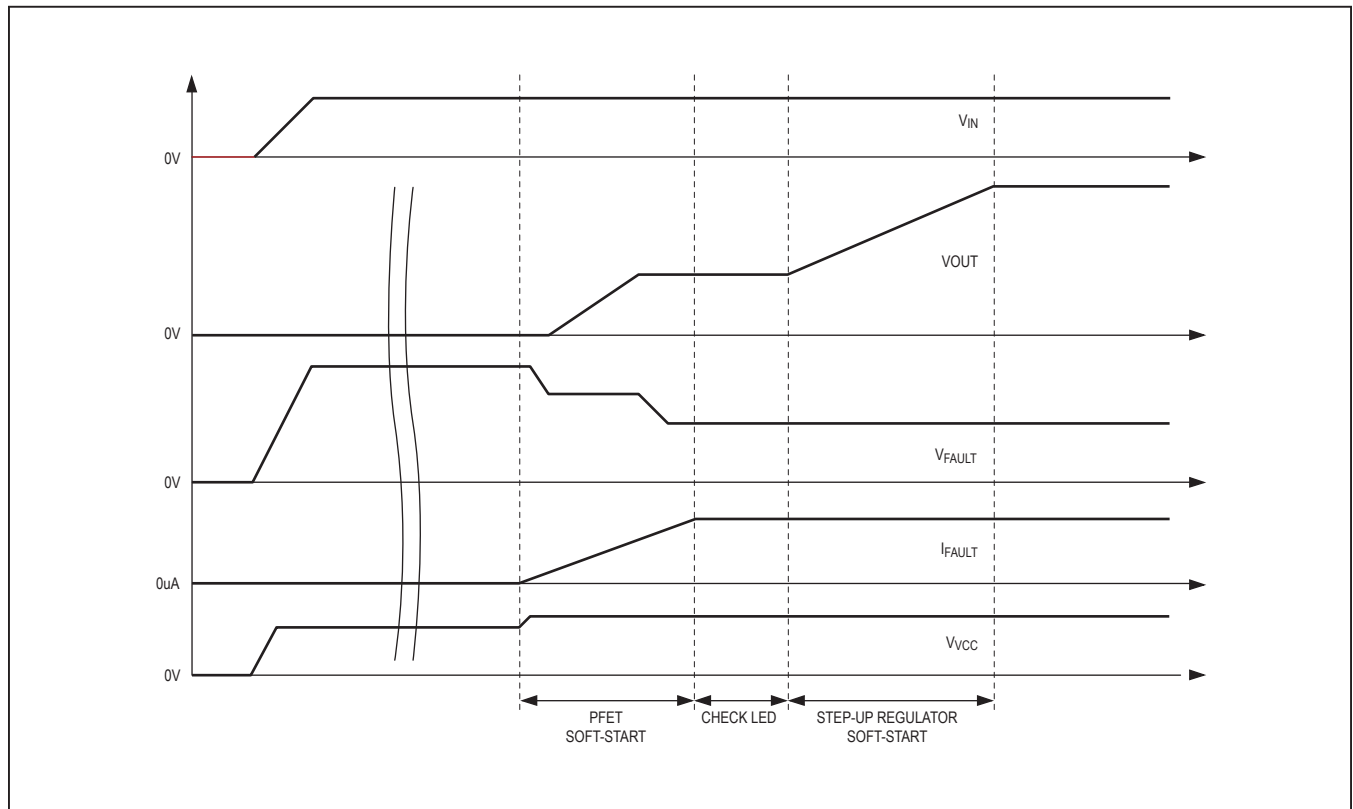

Figure 3. Startup Timing Sequence
0.8mA (typ, 0.4mA min) current source during 1ms (typ). If some FB_n voltage is lower than 1.2V (max), the string is considered to be unused. Therefore, when a string is not in use, it should be connected to SGND. All other strings with FB_n higher than 1.2V (max) are detected as in use. After the LED string diagnostic phases are finished, the step-up regulator starts. The total startup time is less than 10ms. Figure 3 shows the sequence.